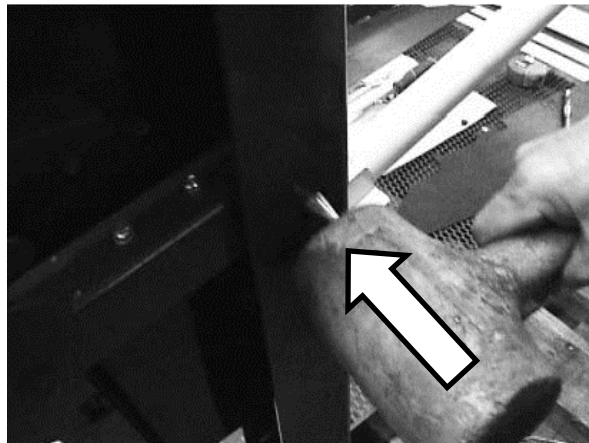

Figure 8. Punch out Link Pin
8. Refer to **Figure 8**. Use a rubber mallet to drive out Pin Link.